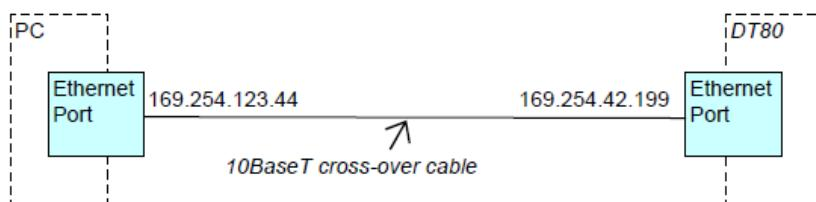
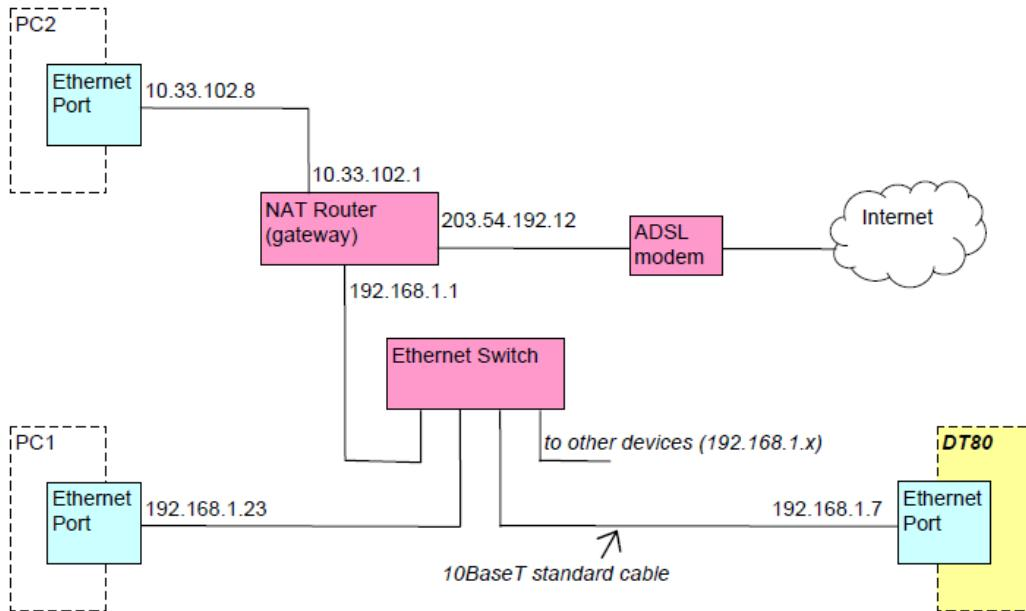
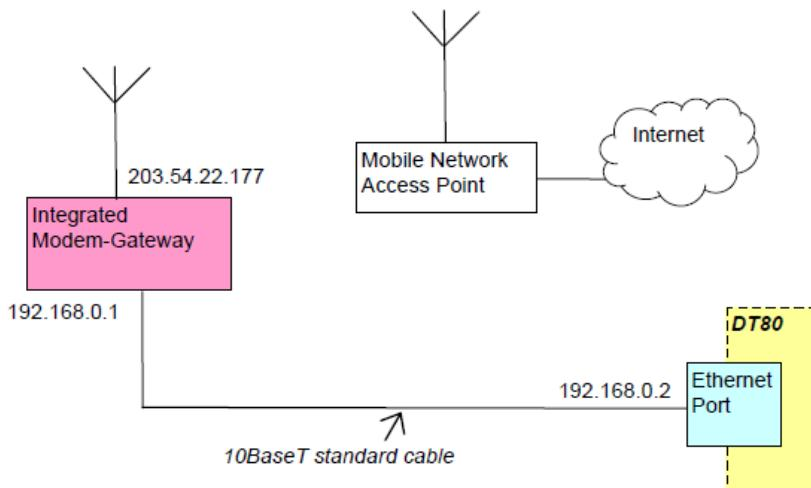

Figure 89: Direct Ethernet connection
Figure 90: Typical Ethernet LAN
Figure 91: Typical Internet connection using an integrated modem-gateway (wireless modem in this case)
- whether the *DT80* will connect directly to a PC (*Figure 89*), or connect to an existing LAN (*Figure 90*), or connect to a modem/gateway (*Figure 91*)